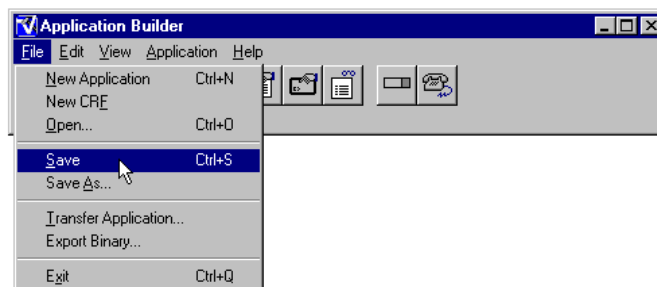

Figure 3-77 File Menu - Save Command
65. Choose **Save** from the **File** menu (Figure 3-77) or type **Ctrl+S**. This saves the security application you have just created.